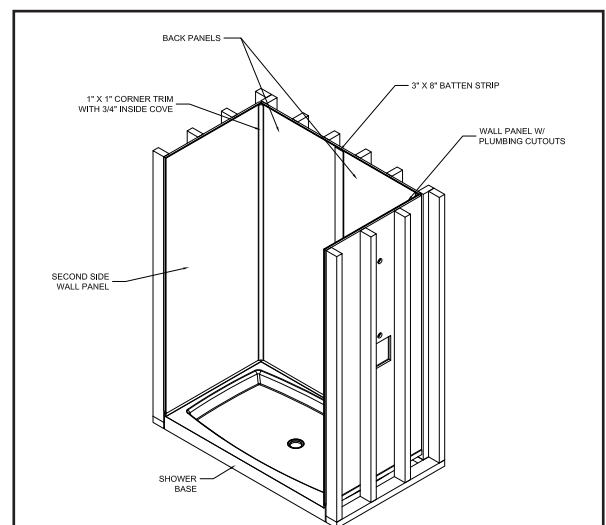

FIG. 4- SHOWER WALL DUAL REAR PANEL INSTALLATION
8. If the back wall of the shower uses multiple panels leave a 1" gap between each back panel when installing them. Once the back panels have been installed take the 3" batten strip and apply commercial grade urethane adhesive to the batten strip and place it so that it is overlapping each sheet by 1" (**SEE FIG. 4**).